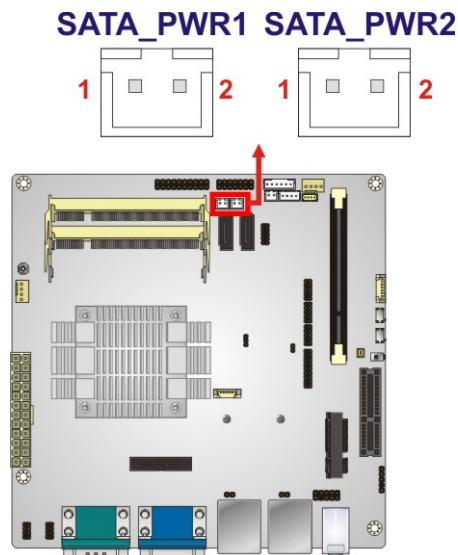

Figure 3-21: SATA Power Connector Locations
**CN Location:** See Figure 3-21